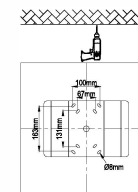

Figure 8
1. Drill holes on the top ceiling, line them up to the holes on the mounting bracket (Figure 8).